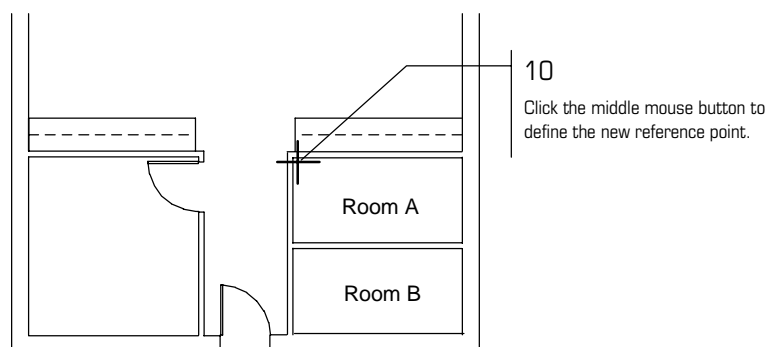

Figure 3.41: Locating the next door
10. Click the middle mouse button near the upper-left corner of Room A, shown in Figure 3.41. You are prompted to “Select hinge side of door”.